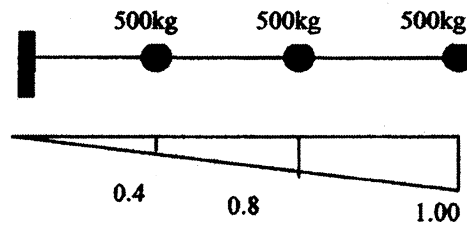

Figure 3
6. a) A displacement pattern was found from static analysis as shown in Figure 3. Estimate the fundamental natural frequency of the system? Employ the Raleigh method. (8)